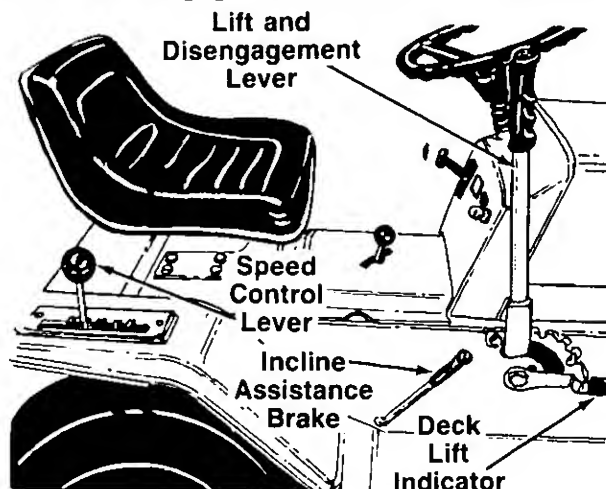

FIGURE 17.
The speed control lever allows you to regulate the ground speed of the lawn tractor. See figure 17. To select the ground speed, depress clutch pedal. Push speed control lever outward and move backward to slow lawn tractor, move forward to increase speed. When desired speed has been obtained, release lever in that position. Whenever clutch is engaged, unit will automatically go to the pre-set speed.
When stopping on a hill, hold the incline assistance brake lever back while you release the clutch-brake pedal until the lawn tractor begins to move, then release the lever. This lever permits smoother starts and clutch engagement by holding the tractor during the brake release/clutch engagement operation. See figure 17.
The lift and disengagement lever is used to raise and lower the cutting deck. Pulling it all the way back and locking it disengages the blades. The lift and disengagement lever **must** be in the disengaged position when starting the engine, when shifting into reverse or if the operator leaves the seat. See figure 17.
The deck lift indicator marks the position being used for the lift lever. Select the lift lever position desired, press the indicator lever outward, move it to the position immediately below the lift lever and release the indicator lever. See figure 17.
3. Place the lift and disengagement lever in the DISENGAGED position. See figure 17.